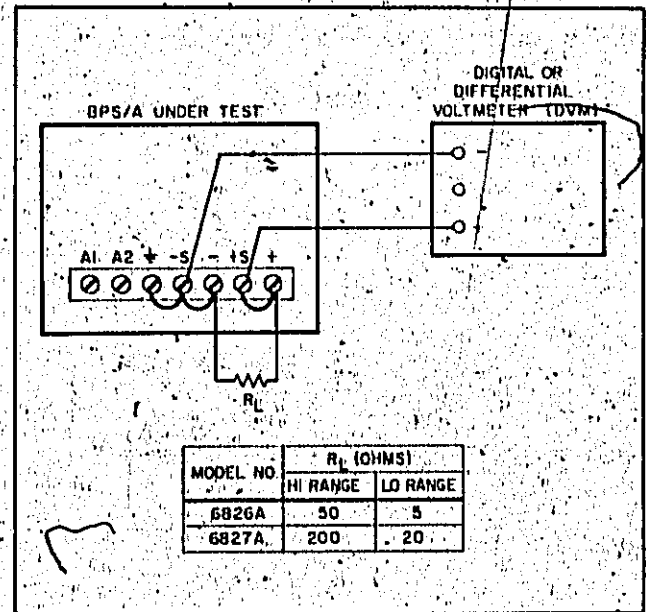

Figure 5-1. Power Supply Mode Test Setup
- Connect appropriate high range load resistor (R_L) across output terminals (see Figure 5-1).
- Turn off BPS/A. Change load resistor R_L to appropriate low range value (see Figure 5-1) and set RANGE switch to X1.
a. Connect the test setup shown in Figure 5-1. Use high range (X10) load resistor value.
a. Connect the test setup shown in Figure 5-1. Use the high range (X10) load resistance value.